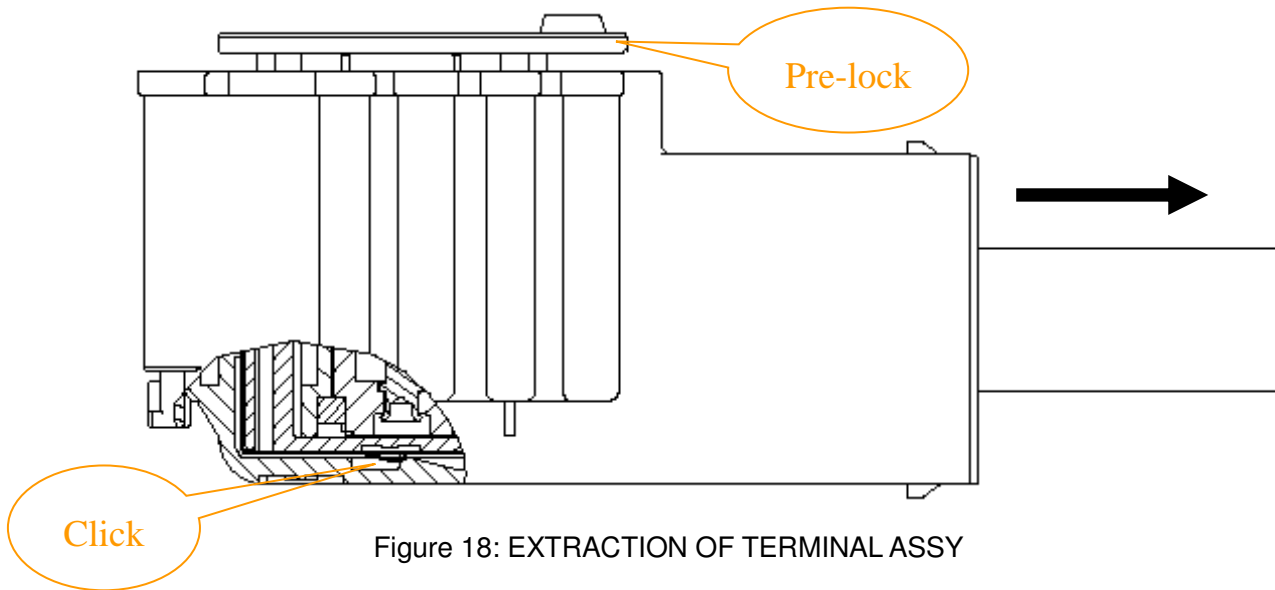

Figure 18: EXTRACTION OF TERMINAL ASSY
- B. Hold the cable tail and pullout the terminal insertion axially from housing as shown in figure 18.